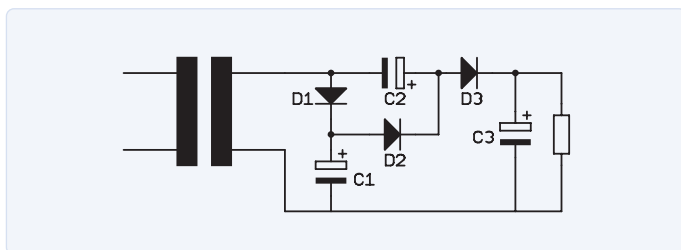

Figure 3: Voltage tripler.
**Figure 3** shows a circuit that triples the voltage. During the positive